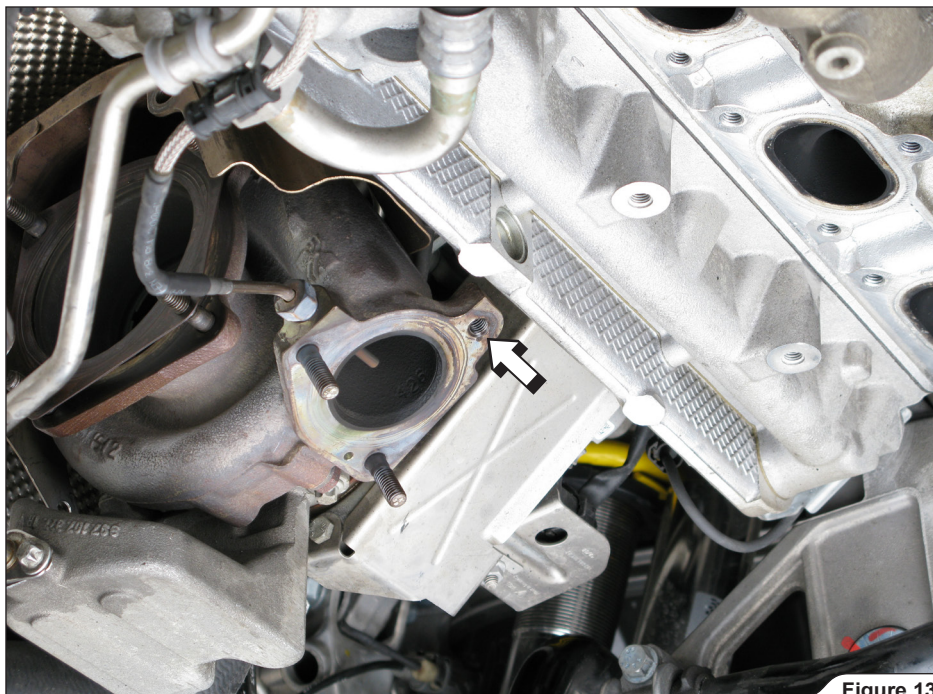

Figure 13
9. **For Evolution Race and Upgrade Kit1/2:** unscrew the marked double ended stud bolt from the left turbine (**Figure 13**).